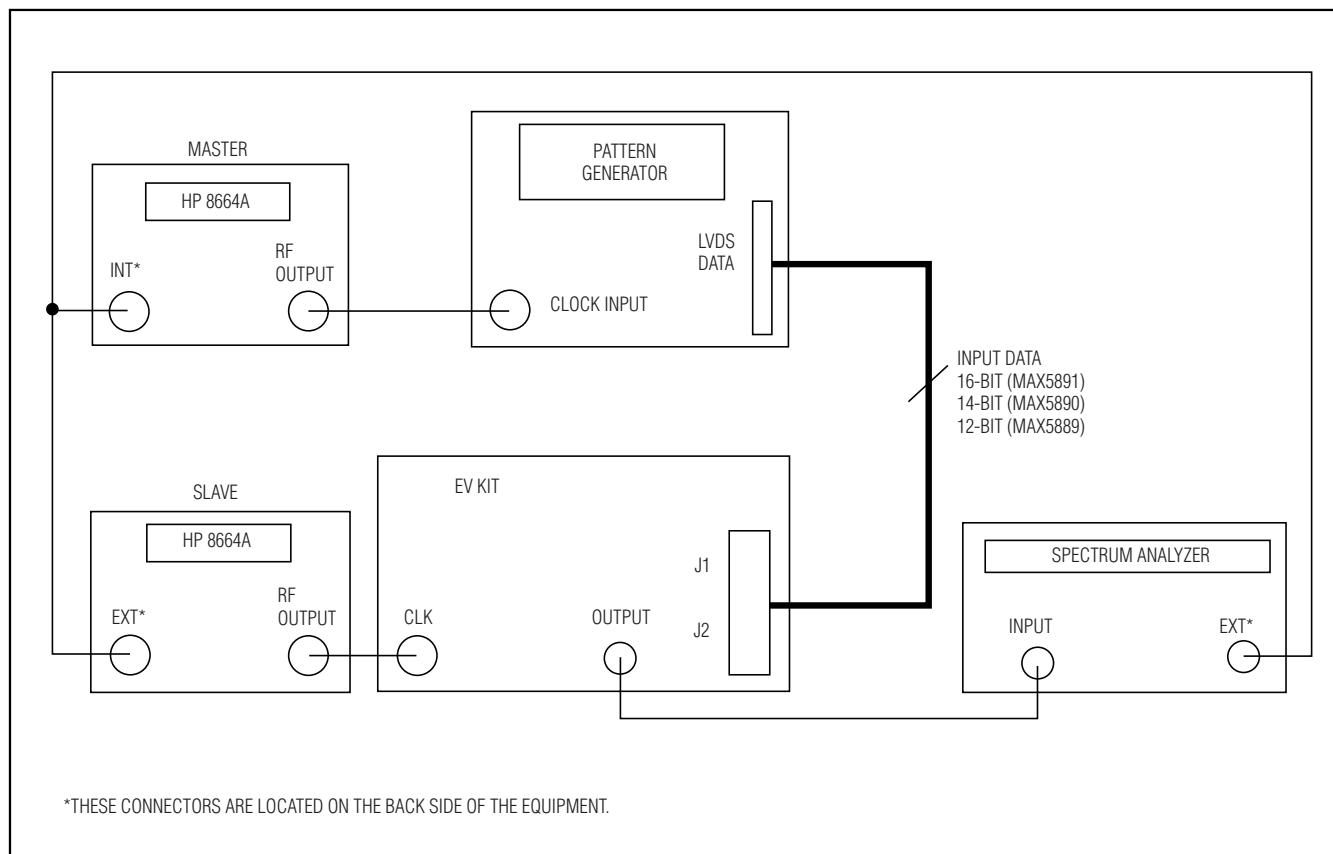

Figure 1. MAX5889/MAX5890/MAX5891 EV Kit Quick Start Setup
The EV kit is a fully assembled and tested surface-mount board. Follow the steps below for board operation. **Caution: Do not turn on power supplies or enable signal generators until all connections are completed (Figure 1).**
- 3) Synchronize the digital pattern generator with the clock signal generator (Figure 1).